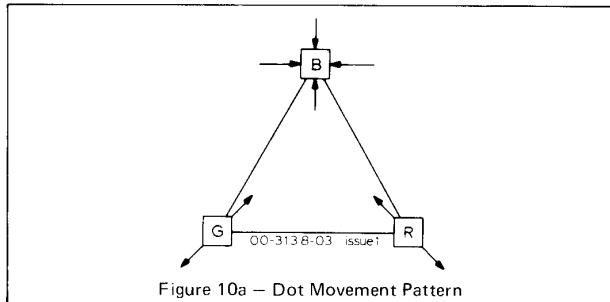

Figure 10a – Dot Movement Pattern
**General Information** – The dot movement pattern is illustrated in figure 10a. The dots move approximately the same angle as the convergence magnets are offset from the vertical plane. Blue, since it is mounted in a vertical plane, moves the blue dot up and down vertically; red and green moves the respective dots on at about a 60% angle from the vertical. The